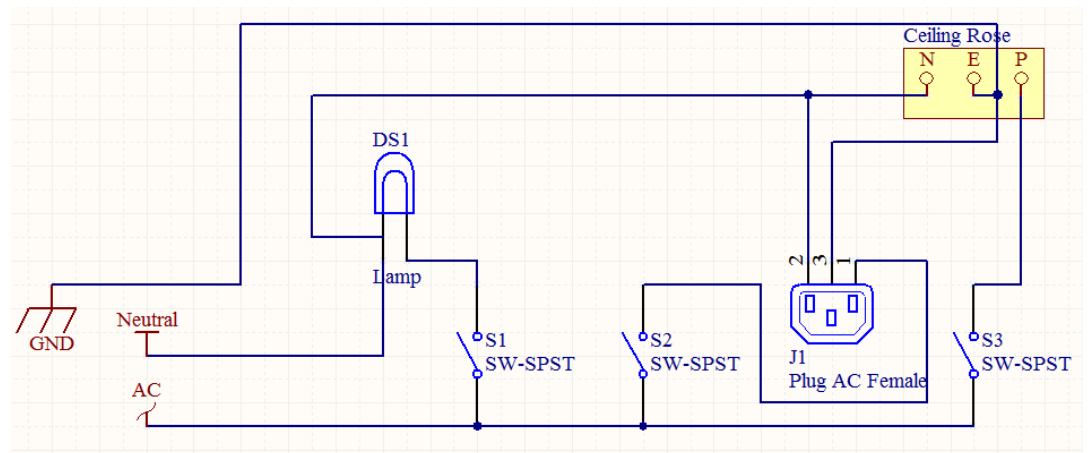

Figure 4: Redistribution Board
2. Connected the circuit according to the circuit diagram as given in Figure 4, keeping the following in mind